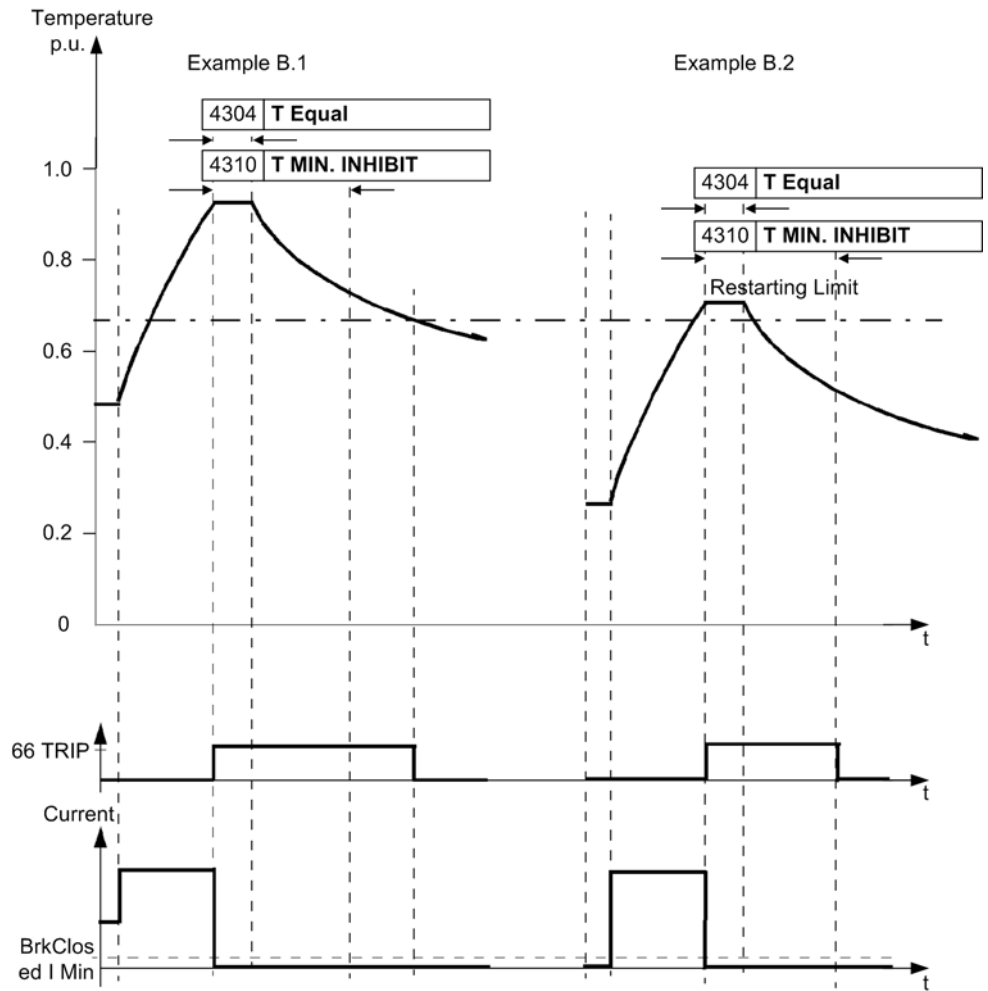

Figure 2-55 Starting up according to examples B.1 and B.2
1. A startup brings the machine from load operation into a temperature range far above the thermal restarting limit and the machine is stopped. The minimum inhibit time and the equilibrium time are started and „66 TRIP“ is reported. The temperature cool-down below the restarting limit takes longer than **4310 T MIN. INHIBIT** and **4304 T Equal**, so that the time passing until the temperature falls below the temperature limit is the decisive factor for clearing the message „66 TRIP“. The thermal profile remains "frozen" while the time expires (see Figure 2-55, to the left).
2. A startup brings the machine from load operation into a temperature range just above the thermal restarting limit and the machine is stopped. The minimum inhibit time and the equilibrium time are started and „66 TRIP“ is reported. Although the temperature soon falls below the restarting limit, the blocking „66 TRIP“ is preserved until the equilibrium time and the minimum inhibit time have expired (see Figure 2-55, to the right).